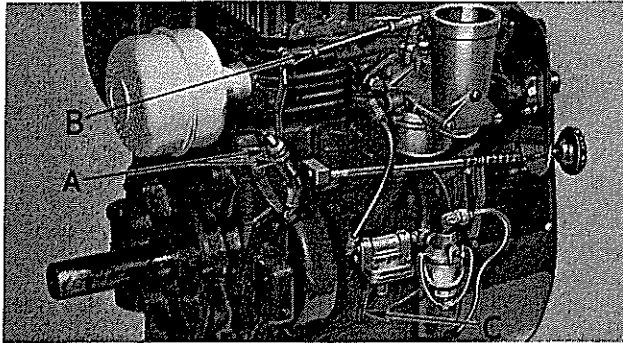

Figure 22
- b. Install throttle control (Figure 22).
- c. Install carburetor linkage (B, Figure 22). Length of the linkage should be adjusted so that travel of the governor arm matches the travel of the carburetor throttle arm.
- d. Governed speed is adjusted by throttle control position on variable speed engines (Figure 22). On constant speed applications, speed control is set in a fixed position (Figure 4).